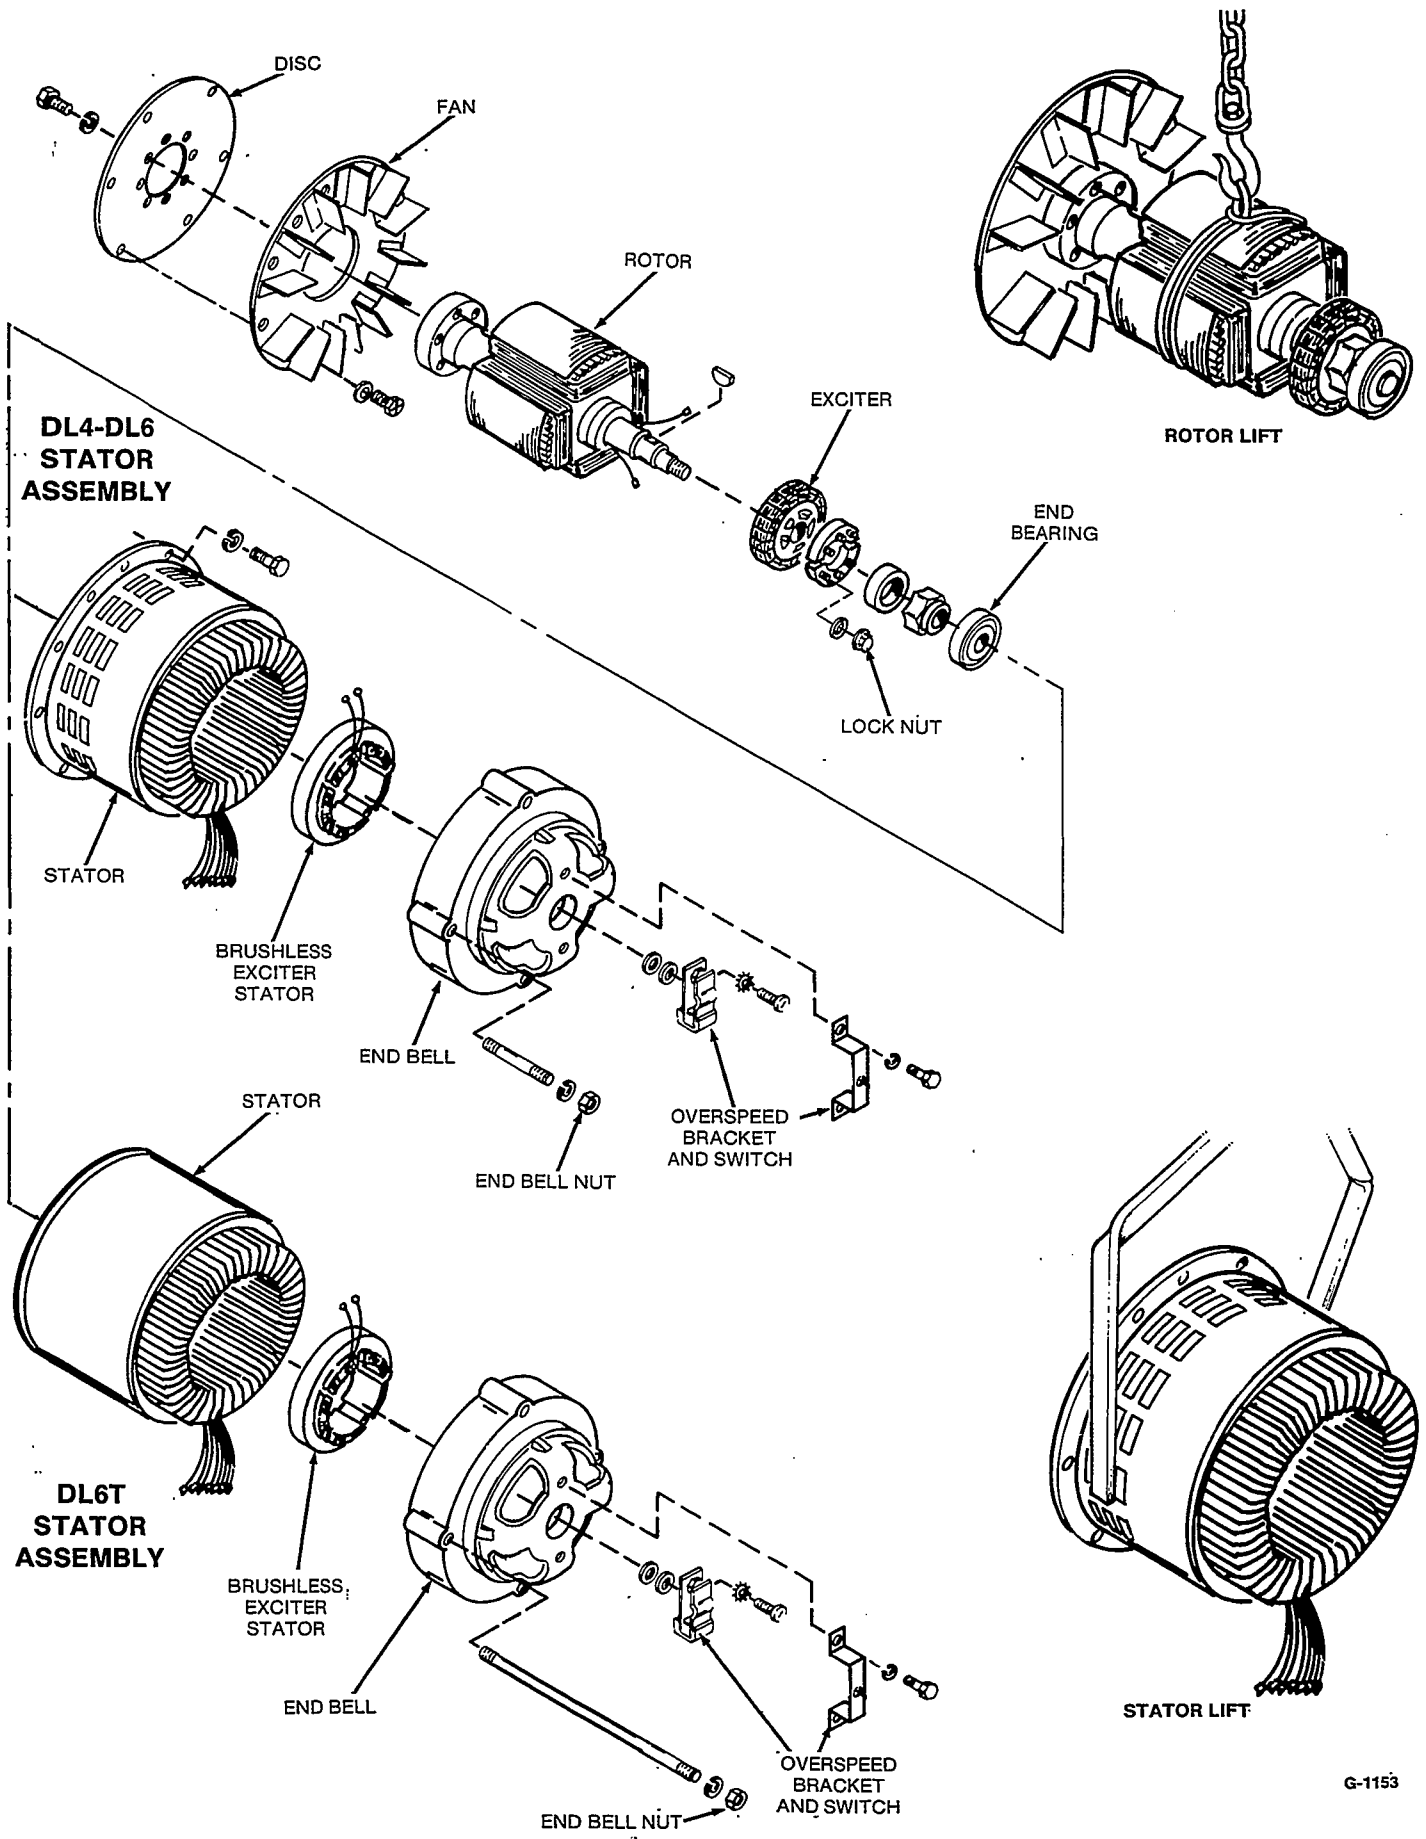

FIGURE 9. GENERATOR ASSEMBLY
6. Remove the end bell stud nuts and slide off the end bell and exciter stator assembly (see Figure 9). It may be necessary to tap around the joint to separate the end bell from the stator assembly.
8. Use a hoist and safe lifting device (stator handling tongs or chain and lift hooks) to support the stator assembly as shown in Figure 9. On DL4 and DL6 sets, carefully remove the capscrews from the stator attachment ring.
10. Using a hoist and sling to support the rotor, carefully remove the capscrews that attach the drive disc to the engine flywheel (Figure 9).